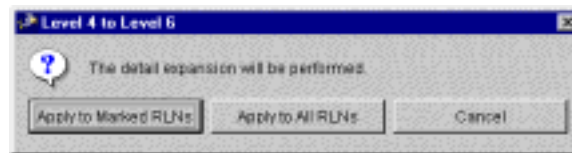

Figure 5.196 Level 4 to Level 6 Window
4. On the Detail Expansion menu, click the Expand Level 4 Cargo to Level 6 command. The Level 4 to Level 6 window opens (Figure 5.196).